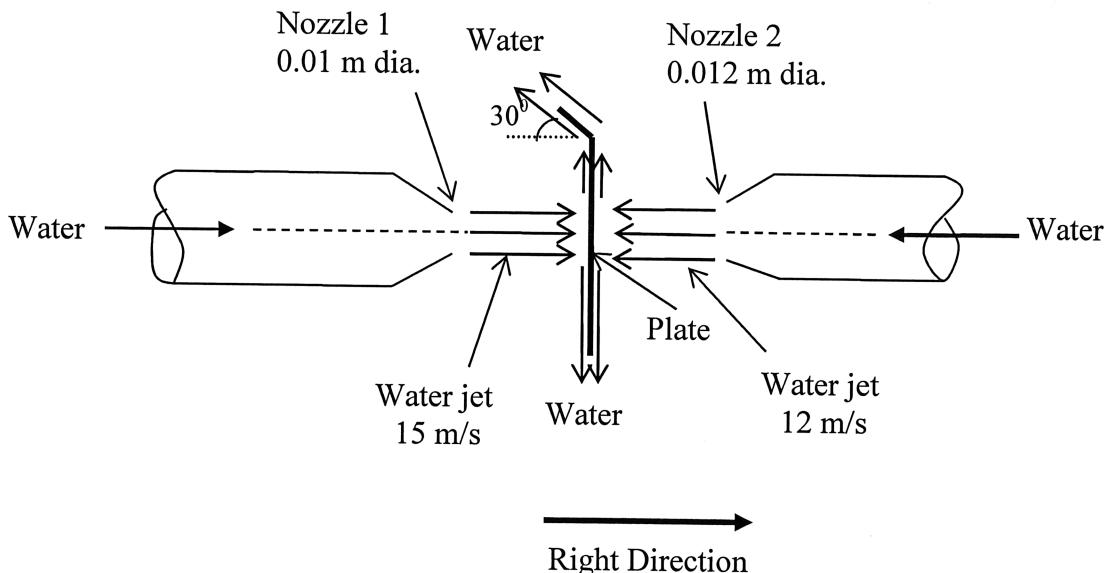

Figure 1
1. Figure 1 shows two water jets from two nozzles impacting on a vertical plate from both directions. The exit diameters of nozzles 1 and 2 are 0.01 m and 0.012 m respectively. The water velocities at nozzles 1 and 2 are 15 m/s and 12 m/s respectively and the water jets are discharged into the atmosphere. The vertical plate has a top slanting edge inclined at  $30^\circ$  to the horizontal as shown in Figure 1. Upon impact on the plate, the water splits equally along the plate for both water jets, i.e., half of the water flows upwards whilst the other half flows downwards on each side of the plate. The density of water is  $1000 \text{ kg/m}^3$ . The flow can be assumed to be frictionless in the atmosphere and along the plate and changes in height can be neglected.
- (b) If the plate moves horizontally to the right at a velocity of 2 m/s as indicated in Figure 1, determine the magnitude and direction of the horizontal force  $F$  that is applied and the mass of the plate that the water jets can now sustain. (10 marks)
Note: Figure 1 appears on page 2.